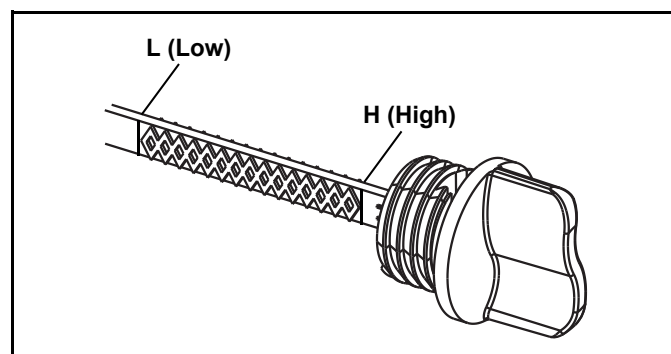

Figure 3-8. Oil Fill Plug/Dipstick
6. See Figure 3-8. Remove oil fill plug/dipstick and verify that the oil level is near the H(igh) mark.